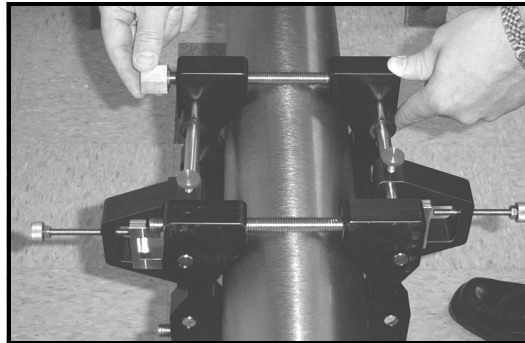

Figure 18: Installing Nuts onto the Fixture
3. Install the four nuts onto the threaded rods with the convex side of the nut facing the fixture. Hand tighten the nuts on each V block evenly, as shown in Figure 18 below. Do not use a cross tightening pattern on the four installation nuts.